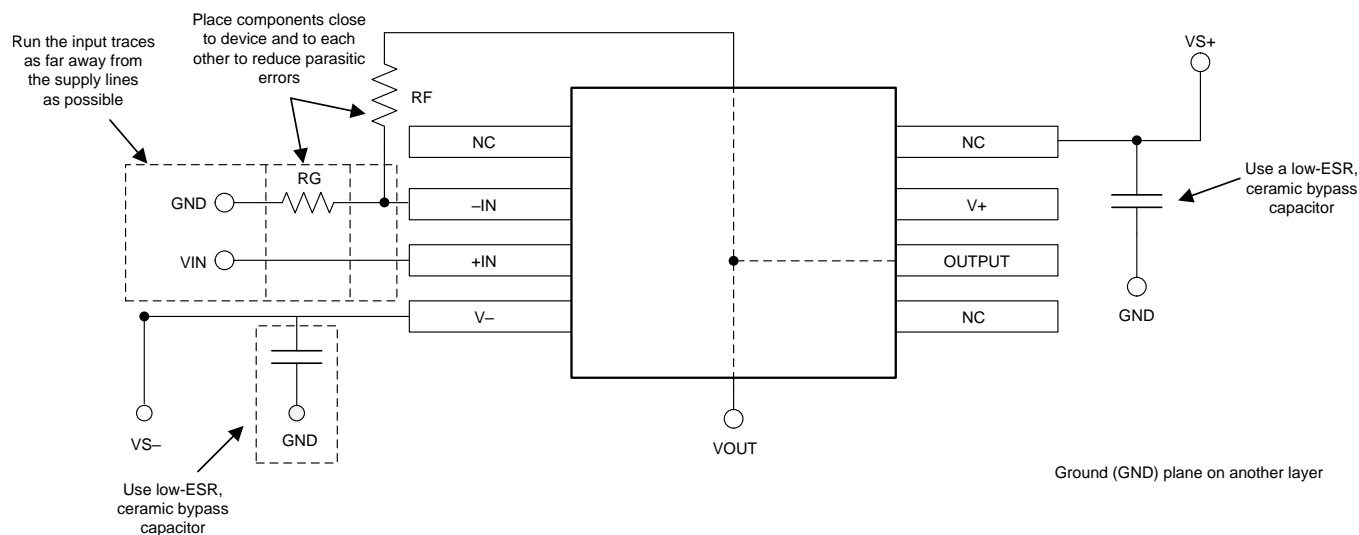

Figure 62. Operational Amplifier Board Layout for Noninverting Configuration
- Place the external components as close to the device as possible. As illustrated in Figure 62, keeping RF and RG close to the inverting input minimizes parasitic capacitance.